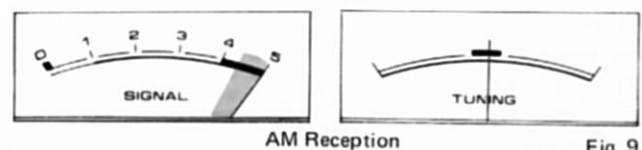

Fig. 9
2. Turn the TUNING knob to select your station. Best reception is obtained when the SIGNAL meter needle deflects to the extreme right (Fig. 9).